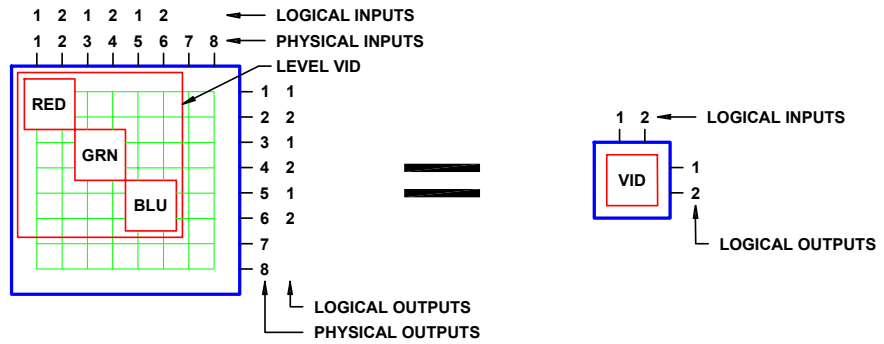

Figure 16 A 2x2 RGB Level
A level is a group of related components that are switched together by Win3500Plus. The example shown in Figure 16 is a 2x2 RGB video level named VID which is made up of three components named RED, GRN and BLU.
2. Enter the level name in the **Level Name** box. Level names are one to eight characters in length and are constructed using uppercase letters, numbers, and spaces. The first character must be a letter. For the example shown in Figure 16, "VID" would be used.
3. Specify the **Number of Inputs** and **Number of Outputs** for the Level. The maximum number of inputs or outputs per level is shown in Table 1 on page 1. The inputs and outputs referred to here are logical inputs and logical outputs. For the example shown in Figure 16, "2" and "2" would be used.